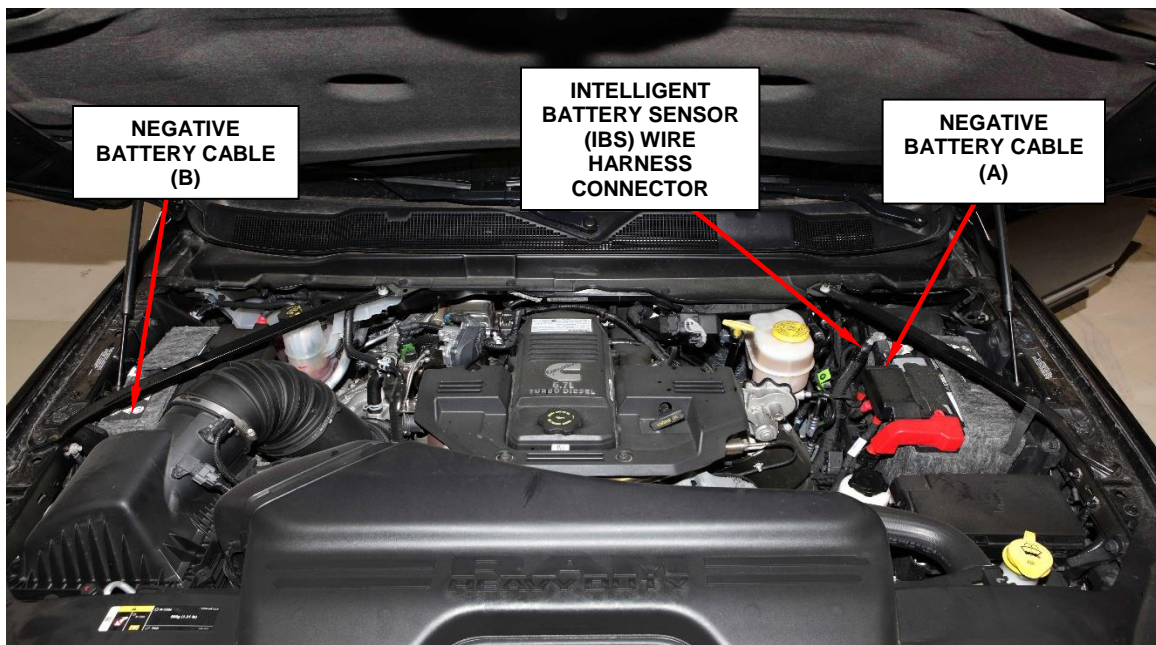

Figure 5 – Engine Compartment
1. Disconnect the Intelligent Battery Sensor (IBS) wire harness connector (Figure 5).
2. Loosen the ground terminal nut and remove the negative battery cables with IBS from the battery and isolate it (Figure 5).
9. Install the cables to the intake air heater relay and tighten nuts to 15N·m (11ft. lbs.). (Figure 5).
13. Install the negative battery cables with IBS to the negative posts and tighten to 7N·m (62 In. lbs.) (Figure 5).
14. Connect the IBS wire harness connector (Figure 5).